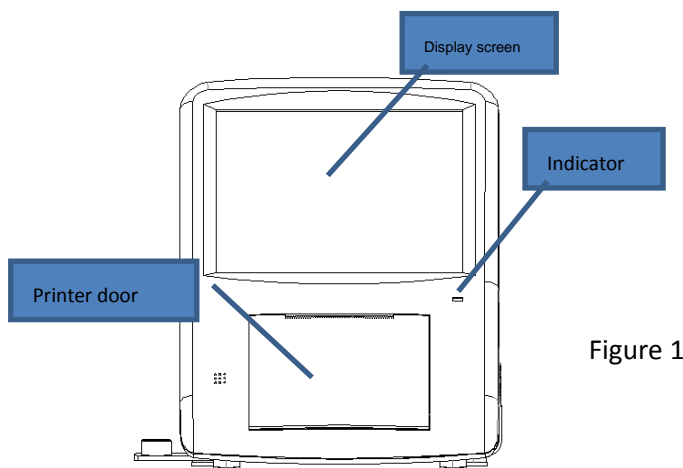

Figure 1
- 1) Front view of machine (figure 1)